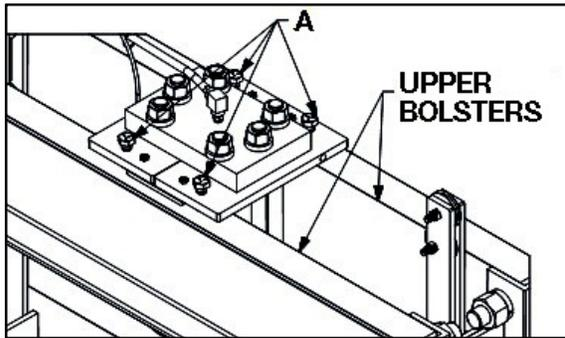

Fig. 9: Positioning the ram
⚠ **WARNING!** Always check the bolts (A) in Fig. 9 before each use. They must be fully tightened to prevent the work pieces from slipping. Failure to tighten the bolts can result in possible serious injury and/or property damage or death.
1. Loosen **ONLY** the bolts (A) in Fig. 9 until they do not contact of the upper bolsters.
⚠ **DANGER!** Do not loosen any bolts other than bolts (A) shown in the Fig. 9. If this warning is not heeded, it may result in death or serious injury.